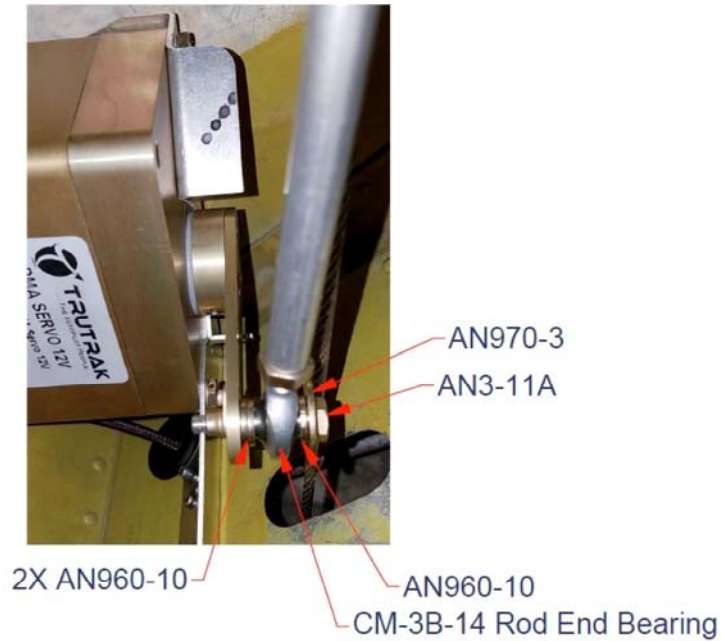

Figure 2-6
(1) Fully thread an AN315-4 nut on the CM-3B-14 Rod End Bearing (P/N 2510-052) then thread the push rod (P/N 2520-061) approximately half way on the rod end bearing.
(2) Fully thread an AN345-10 nut on the MM-3-300 Rod End Bearing (P/N 2510—051) that is attached to the aileron bellcrank.
(3) Thread the push rod (P/N 2520-061) approximately half way on MM-3-300 Rod End Bearing (P/N 2510—051).
(4) Adjust just rod end bearings so that full aileron deflection will move the servo arm equally between the stops built in to the Cessna 177 Roll Bracket Assembly (P/N 7200-093).
(5) Attach the inboard end of the push rod assembly to the servo arm as shown in Figure 2-6, Torque AN3-11A bolt to 20-25 in-lb.